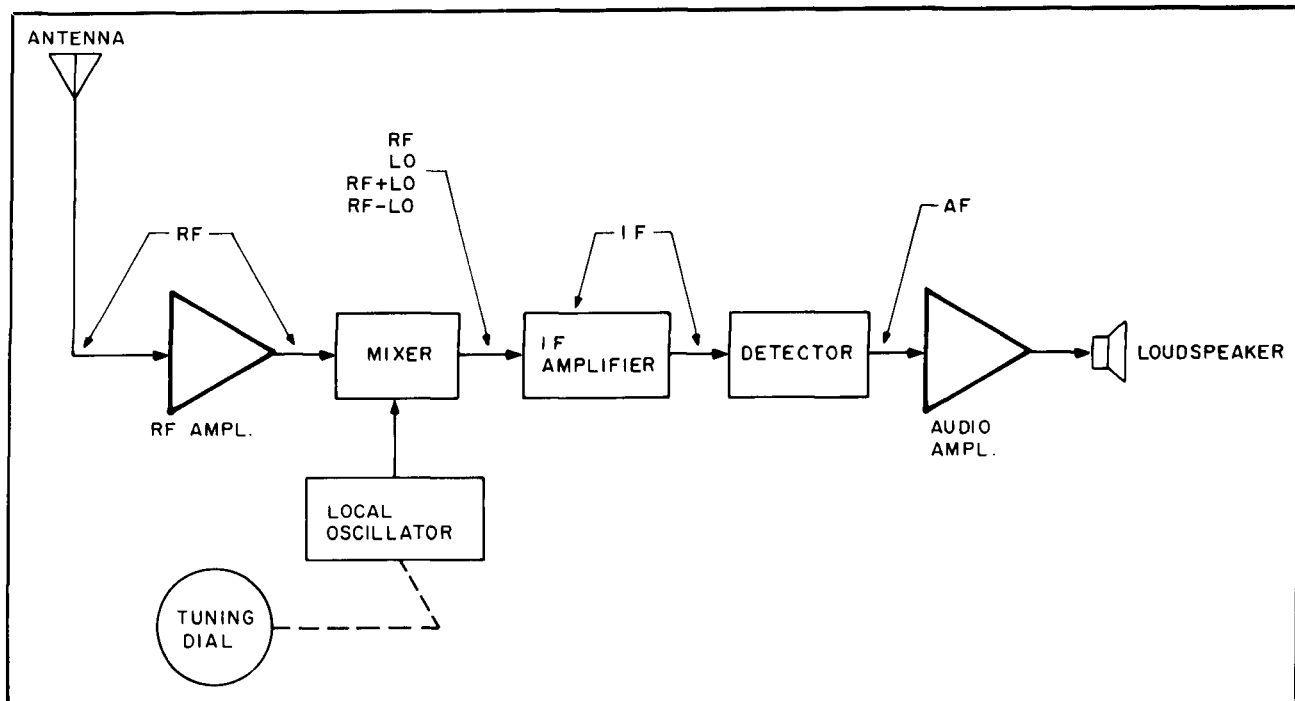

Figure 10. Superheterodyne receiver block diagram.
Figure 10 shows the basic "superhet" block diagram. The key to superhet operation is the conversion of the RF signal (frequency RF) to the intermediate frequency (IF). This job was done by nonlinearly mixing the RF signal with a signal from a local oscillator operating on frequency LO. The frequency LO can be above the RF frequency, or below it. The oscillator signal is produced inside the receiver. The main tuning dial of the superhet receiver is connected to the capacitor that tunes the local oscillator.